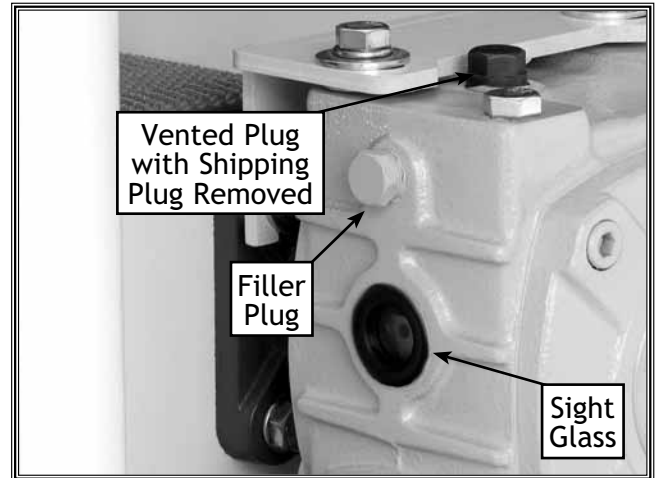

Figure 35. Gear reducer breather and filler plug.
- After the first 300 hours of use, replace the gear reducer lubricant with straight 140W gear lube up to the center of the sight glass. **DO NOT** use the common 85-140 gear lube as it is too light and seals may begin to leak. See **Figure 35**.